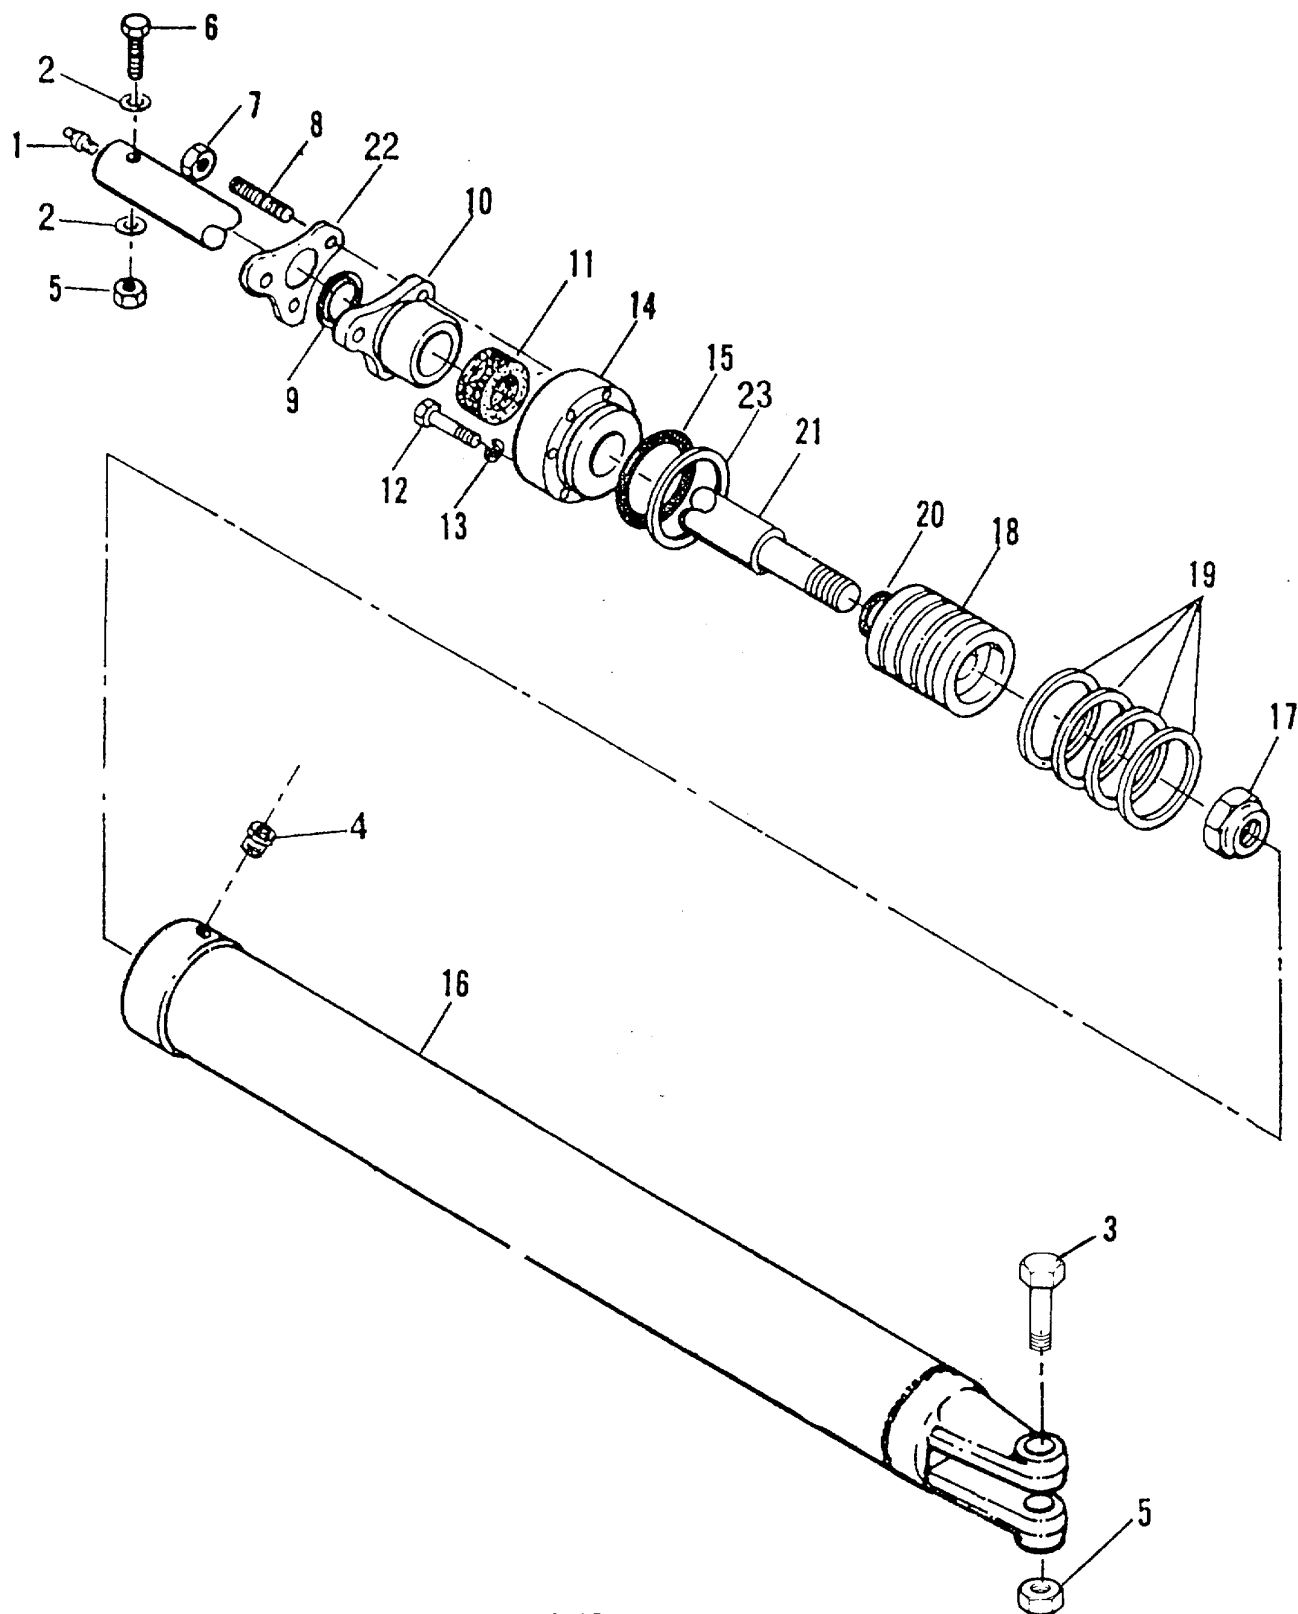

Figure 6-31. ELEVATING CYLINDER
2. Refer to illustrated parts list in Parts Manual while performing remainder of cylinder packing procedure. Refer to Figure 6-31 in this manual.